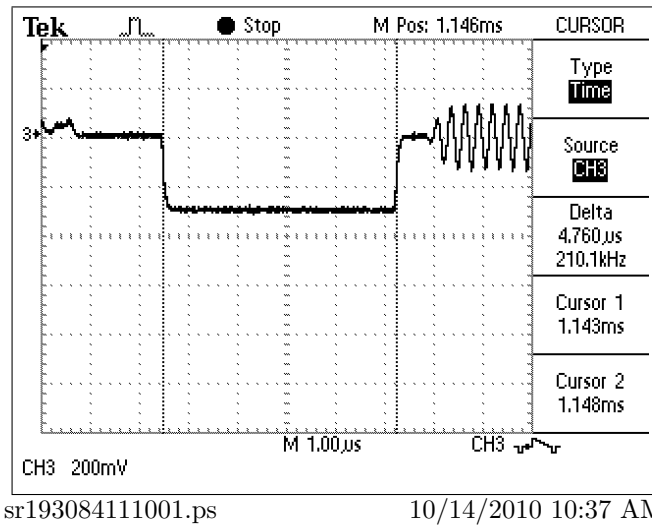

Figure 1: VK-S275R 0501-0102, HSYNC Timing, Capture #1
- 9.1 Figure 1, page 3, shows the timing of the HSYNC pulse